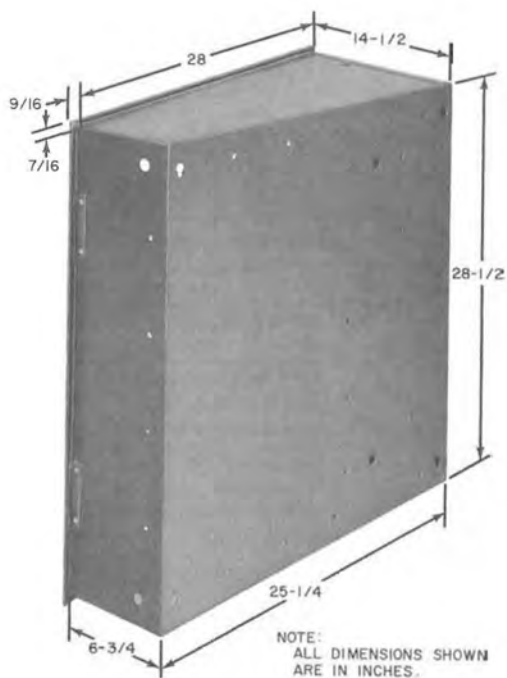

Fig. 6—Rear View of Housing
- (b) Refer to Fig. 6 and 7 for dimensions and cut hole in wall to accept housing. Minimum depth shall be 15 inches.
2.08 When the booth is pedestal mounted, a KS-20630, List 16 steel base assembly (Fig. 6) must be used and is ordered separately. The customer will provide an exterior to the base assembly.